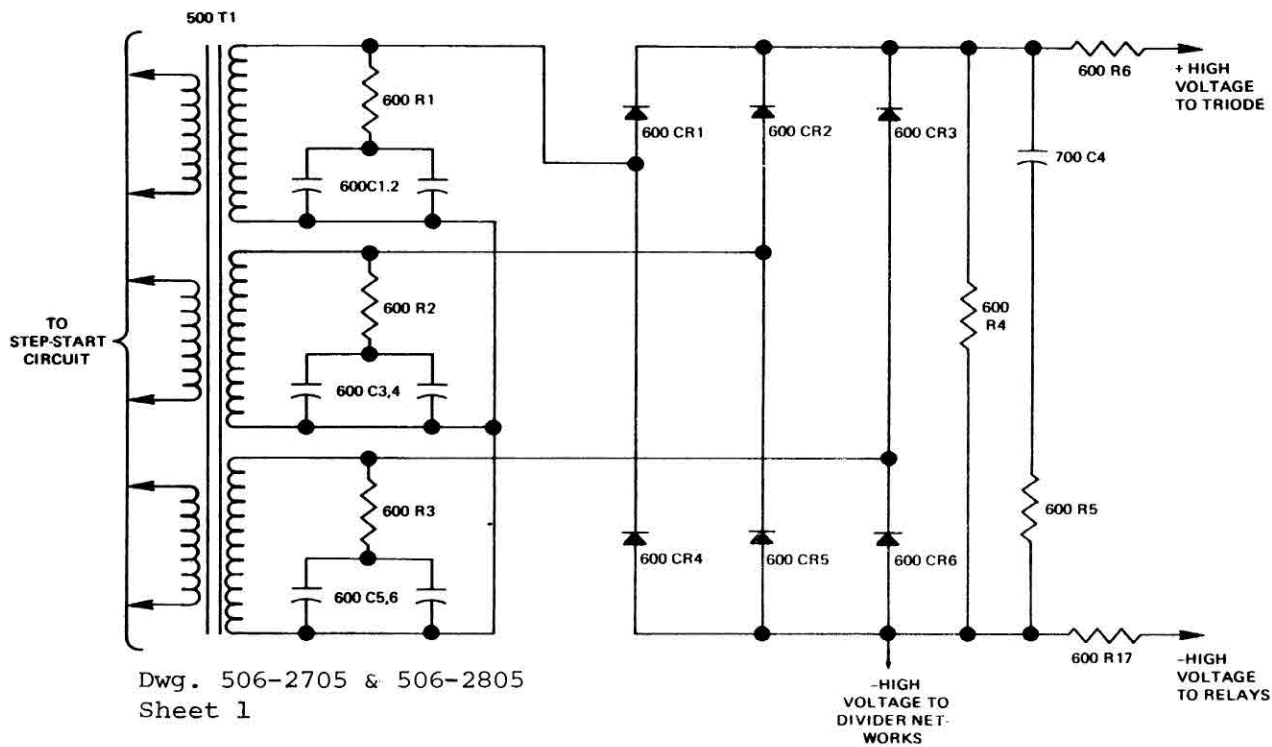

Figure 4-2. CV-14 A and B high voltage power supply
4.2.1 High Voltage Power Supply (Figure 4-2)